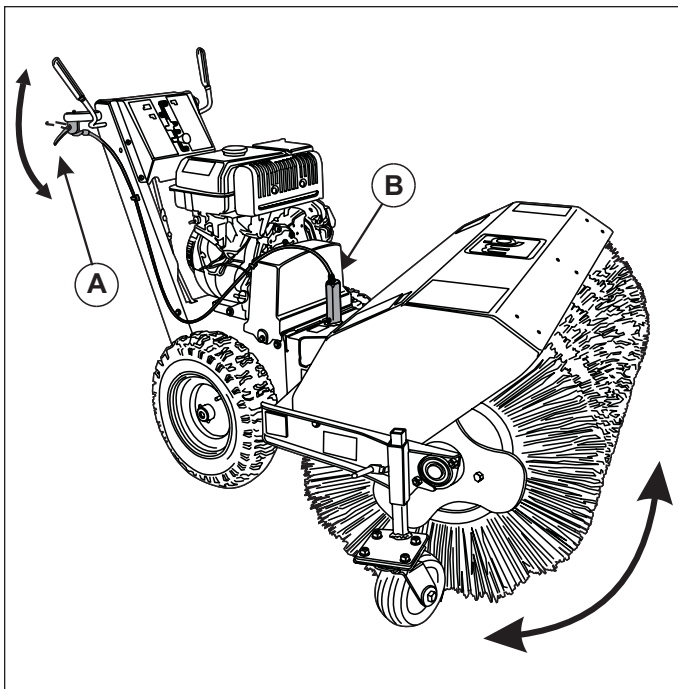

Figure 3. Brush Angle Adjustment
1. Pull upwards on the Brush Lock Swivel Lock handle (A, Figure 3) and hold. This will release the brush swivel lock pin (B).